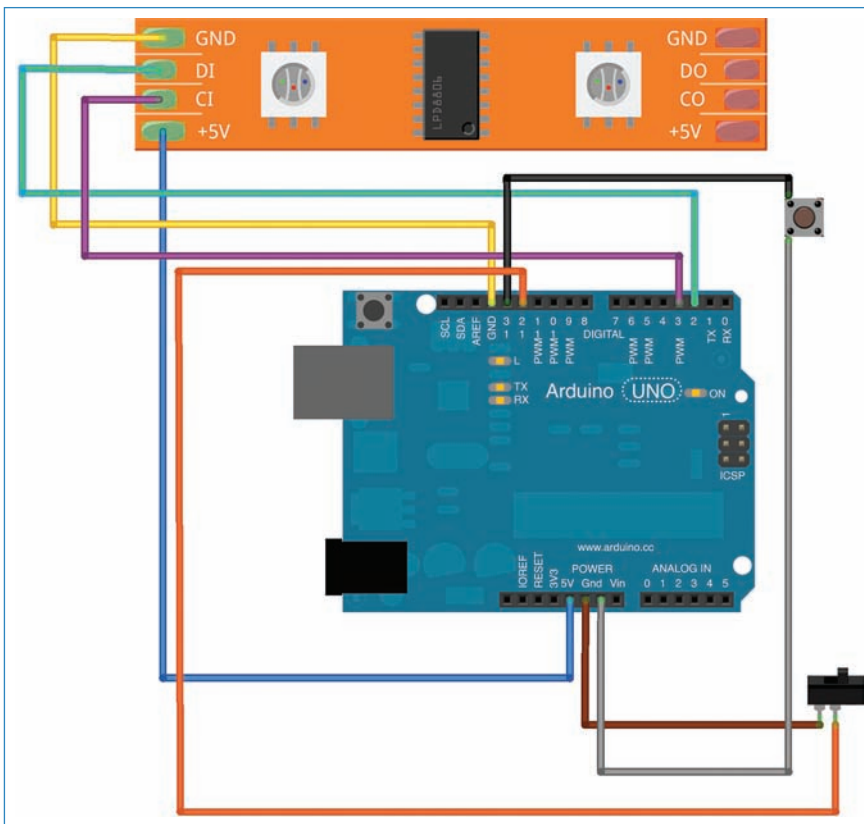

FIGURE 3.26 Wire up the light strip as you see here.
5. Wire up the Arduino, button, and potentiometer, as shown in Figure 3.26.